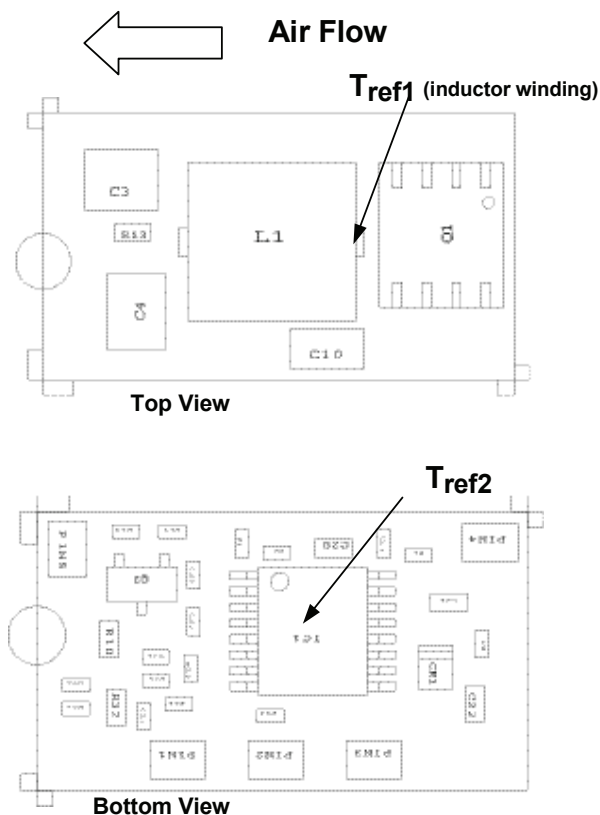
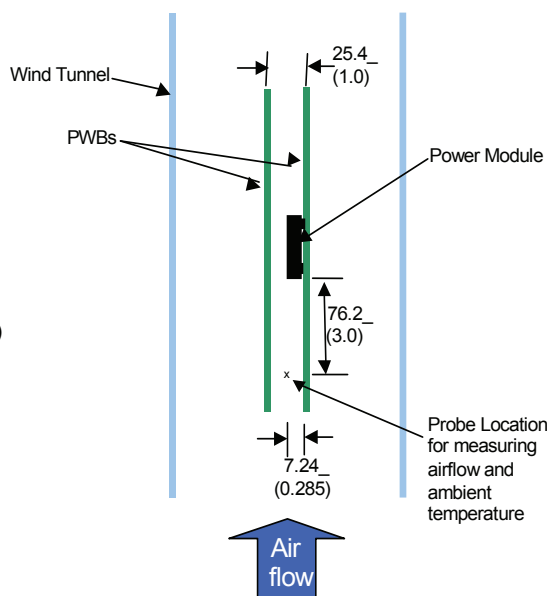

Figure 32. T_{ref} Temperature measurement location.
Figure 33. Thermal Test Set-up.
Considerations include ambient temperature, airflow, module power dissipation, and the need for increased reliability. A reduction in the operating temperature of the module will result in an increase in reliability. The thermal data presented here is based on physical measurements taken in a wind tunnel. The test set-up is shown in Figure 33. Note that the airflow is parallel to the long axis of the module as shown in figure 32. The derating data applies to airflow in either direction of the module's long axis.
The thermal reference points, T_{ref1} and T_{ref2} used in the specifications of thermal derating curves are shown in Figure 32. For reliable operation these temperatures should not exceed 125°C.